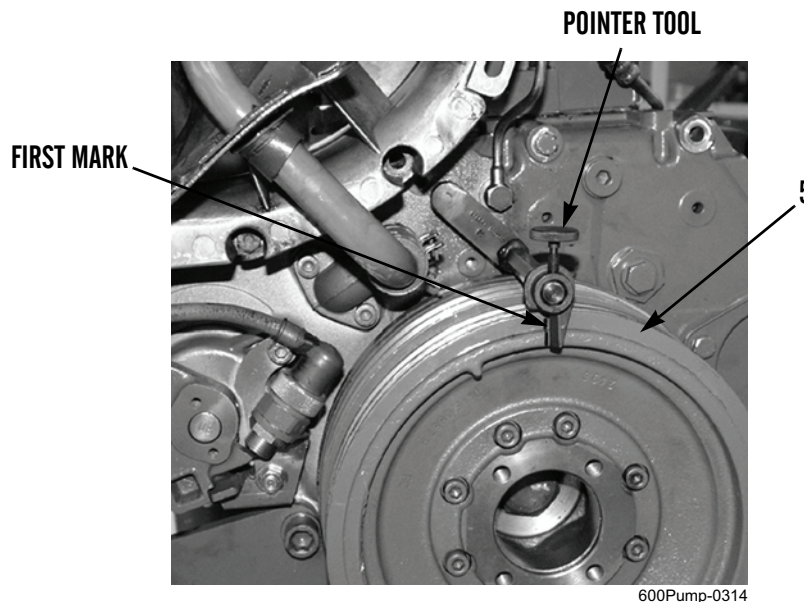

Figure 3. Placing First Mark.
7. Mark V-belt pulley (Figure 3, Item 5) where indicated by pointer tool. This is the first mark.
13. Mark V-belt pulley (Figure 3, Item 5) where indicated by pointer tool. This is second mark.